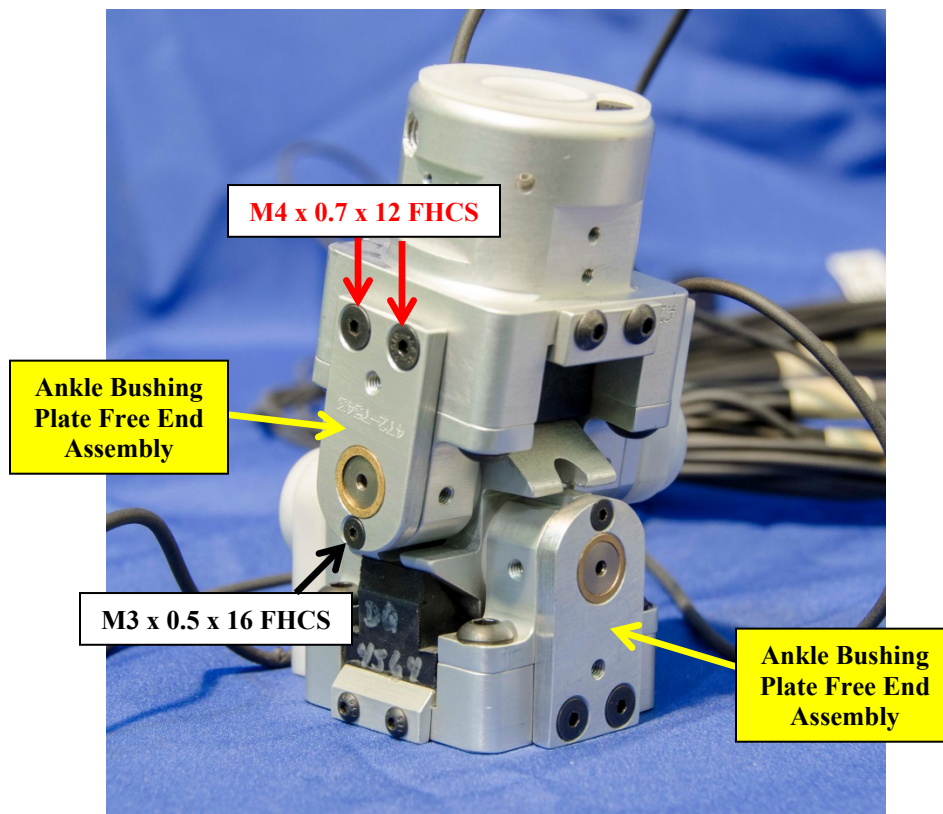

Figure 12-50. Install ankle bushing plate free end assemblies
- 12.2.2.32 Install two Ankle Bushing Plate Free End Assemblies (472-7540) using one M3 x 0.5 x 16 FHCS in the hole closest to the rounded edge and two M4 x 0.7 x 12 FHCS in the holes near the straight edge of the plate (Figure 12-50).